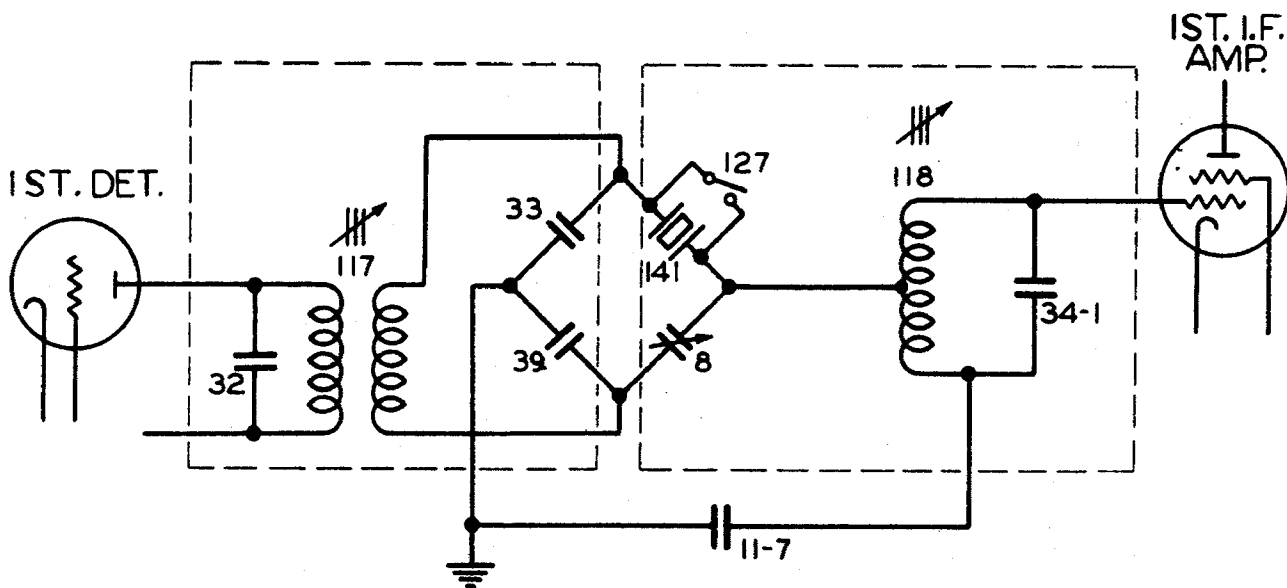

Figure 4-3. Details of Crystal Filter Circuit
b. CRYSTAL BAND-PASS FILTER. (See fig. 4-3) —Additional selectivity is available by the use of the i-f crystal filter preceding the first i-f amplifier tube. This crystal filter comprises a balanced capacity bridge circuit which may be adjusted internally to provide a band width of 800 to 3,000 cycles at 10X down from resonance. The tapped tuned circuit (118 and 34-1) matches the impedance of the crystal bridge to the first i-f grid. The crystal filter may be switched in or out of the circuit by the CRYSTAL OUT-IN switch 127, actuated from the front panel. The symmetry of the resonance curve is adjustable by the balancing capacitor 8. The filter band width is adjustable by the